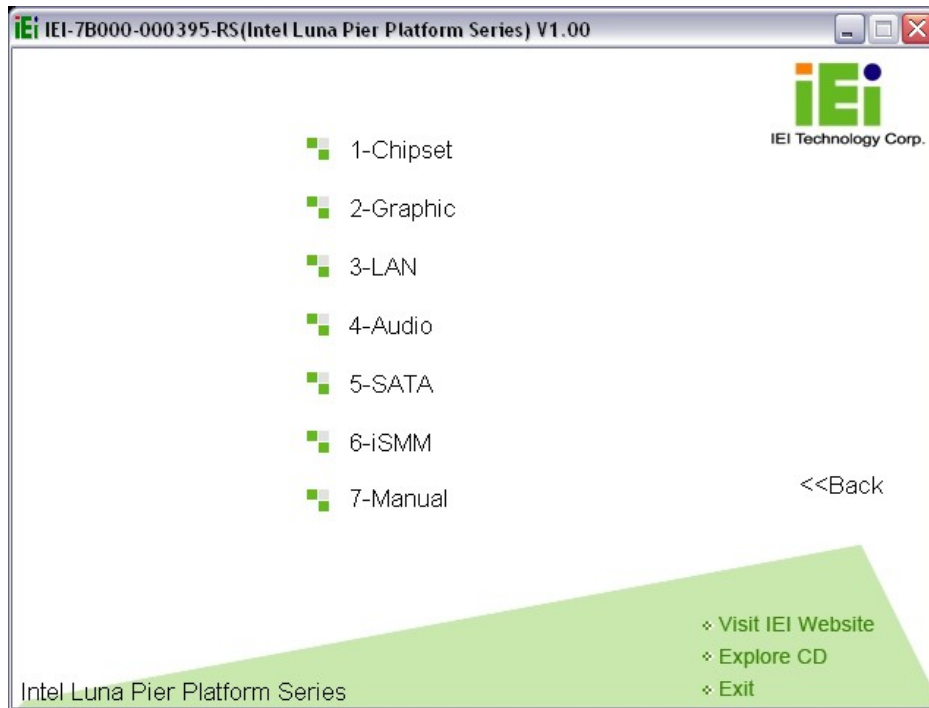

Figure 4-24: Available Drivers
Step 4: A new screen with a list of available drivers appears (**Figure 4-24**).